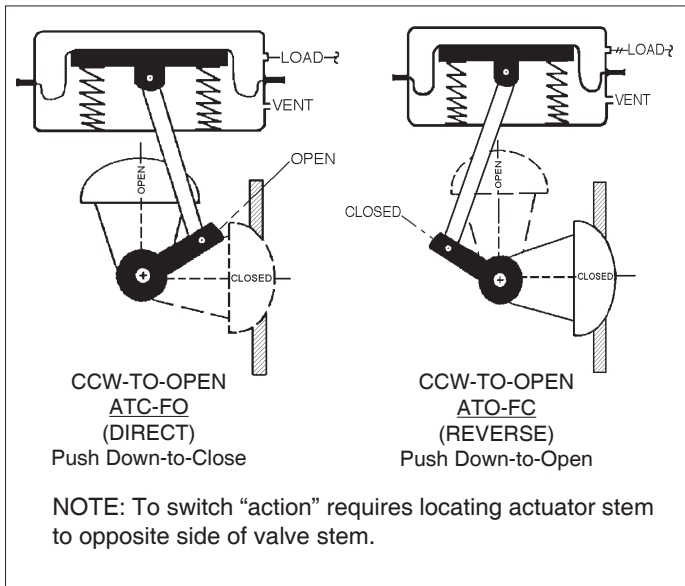
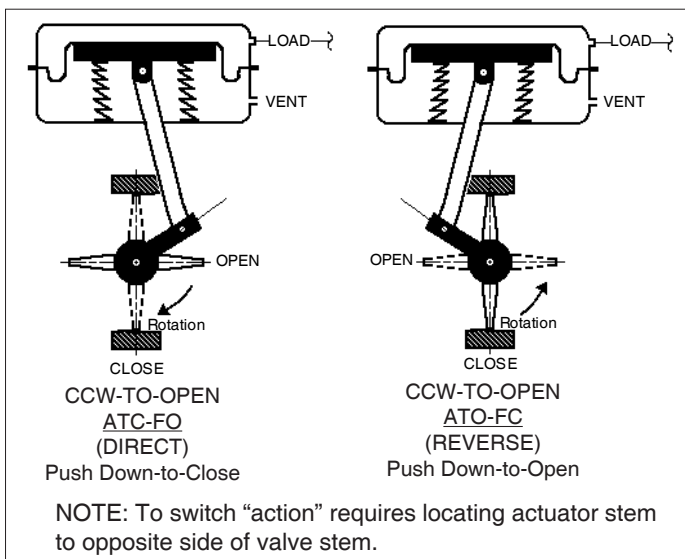

Figure 10
Figure 11
3. To reverse actuator (AA) failsafe action basically requires:
- a. Moving lever arms (5) from left side of valve’s stem (Ranger (7)) (Premier (3.2)) to right side, or vice versa. This is accomplished by removing actuator assembly (AA) from body assembly (BA) and rotating actuator (AA) 180° about the actuator’s stem linkage (8) (9) (10) (43) (44). See Figure 10 and Figure 11.
- b. Rotating plug (Ranger (6)) or disc (Premier (3.1)) by 90°; i.e. from “closed” position to “open” position, or vice versa.
- c. Reconnecting actuator (AA) to body (BA) with lever arms (5) also rotated 180°.